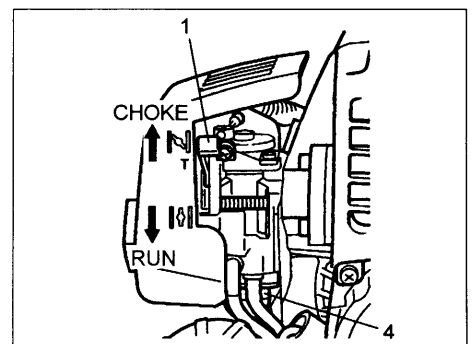

Fig.3-2
2. Starting (Fig. 3-2)
* Push priming bulb (4) several times. (If so equipped) (Fig. 3-2)
2. Set choke lever (1) to (CHOKED) position.